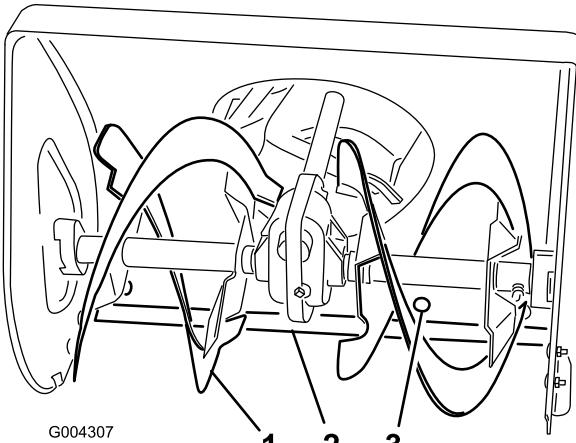

Figure 28
1. Auger side plate (2)
2. Flange nuts (4)
3. Skid (2)
4. Support the auger blades so that they are 1/8 inch (3 mm) off the ground (Figure 28).
- 6. To adjust the scraper, loosen the 5 mounting screws (Figure 28), level the scraper, and tighten the mounting screws.